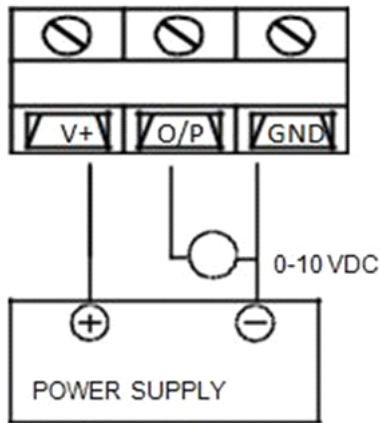

FIGURE 1
- Use maximum 18 AWG wire for wiring to terminals. Refer fig 1 and 2 for wiring information.
- For Voltage output models, units should be wired as figure 1. For current output models, units should be wired as figure 2.